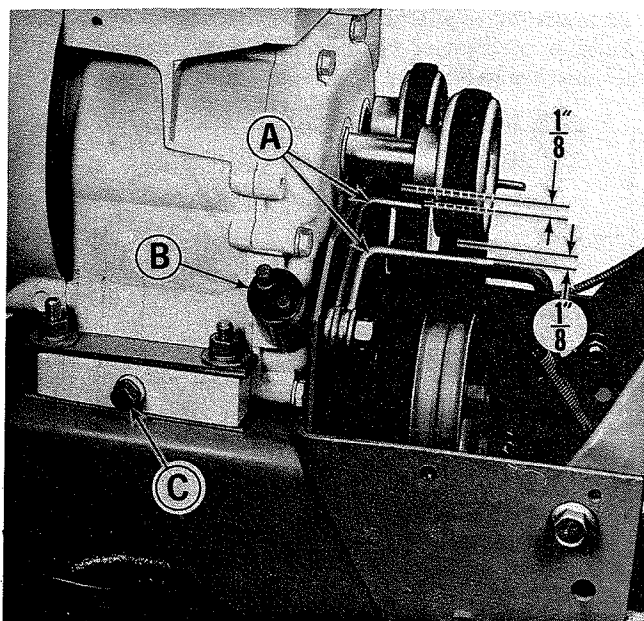

Figure 13. Left side of Roticul with belt drive cover removed.
See figure 13. Each time fuel is added or at least once every five hours of operation, the engine crankcase oil level should be checked. See figure 13. Remove all dirt from around filler plug (B), then remove the filler plug by turning it counter-clockwise. The crankcase oil level should be maintained full to the point of over flowing. If oil is required, add the same grade and weight of oil, which is already in the engine crankcase.
See figure 13. While the engine is warm, remove the drain plug (C) and drain the oil from the engine crankcase. Replace the drain plug. Remove oil filler cap (B) and refill the crankcase with new oil, which is classified for service SC or SD, or MS. Nothing should be added to the recommended oil.